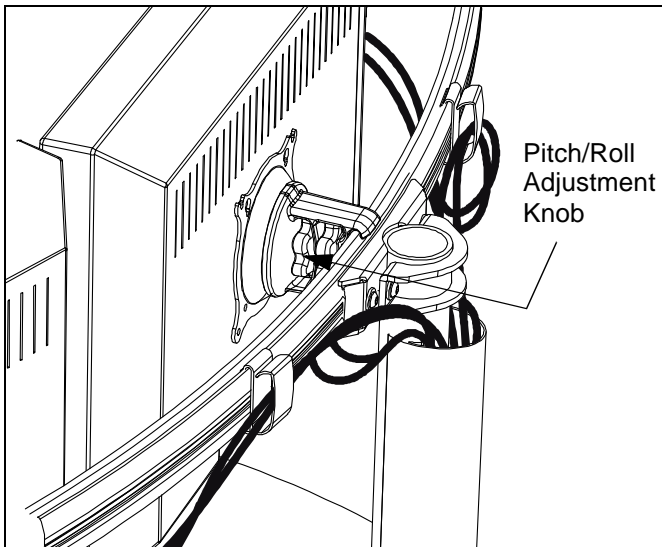

Figure 15: Display Pitch and Roll Adjustment
1. Loosen Centris bracket front adjustment knob. (see Figure 15)